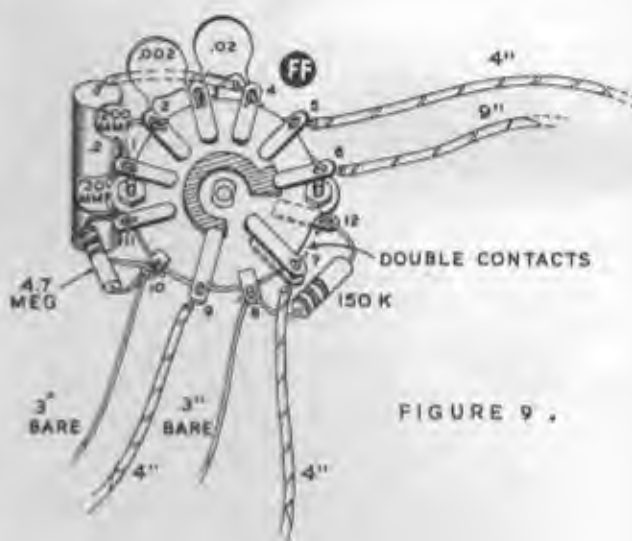

FIGURE 9.
- ( ) Identify the HOR/FREQ. SELECTOR switch, FF, the 12-contact wafer switch. Observe that one of the switch contacts has tags on both sides of the wafer. Using this for reference, orient the switch as shown in Figure 9. Also note that contact 12 is on the shaft side of the switch wafer.
- ( ) Connect a 150 K $\Omega$  resistor (BROWN, GREEN, YELLOW) from FF12 (S-1) to FF8 (NS).
- ( ) Connect a 4.7 megohm resistor (YELLOW, VIOLET, GREEN) from FF10 (NS) to FF11 (NS).
- ( ) Connect a 20 pF ceramic disc capacitor from FF11 (S-2) to FF1 (NS).
- ( ) Connect a 200 pF ceramic disc capacitor from FF1 (S-2) to FF2 (NS).
- ( ) Connect a 0.002  $\mu$ F ceramic disc capacitor from FF2 (S-2) to FF3 (NS).
- ( ) Carefully check the switch wiring against Figure 9. When satisfied that it is correct in every detail, mount the switch on the panel at FF. Be sure contacts FF3 and FF4 are pointing towards the tube panel ring. Follow Figure 4 for assembly details.